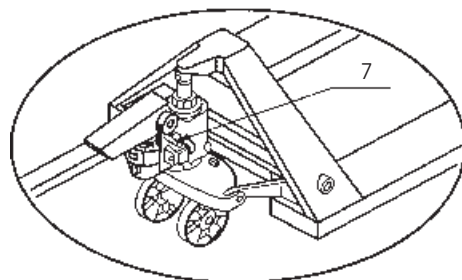

Fig. 4
7. Push handle down into a horizontal position, see Fig. 4, and withdraw pin item 7, Fig. 4. Store pin in safe place for use should truck require to be dismantled again.